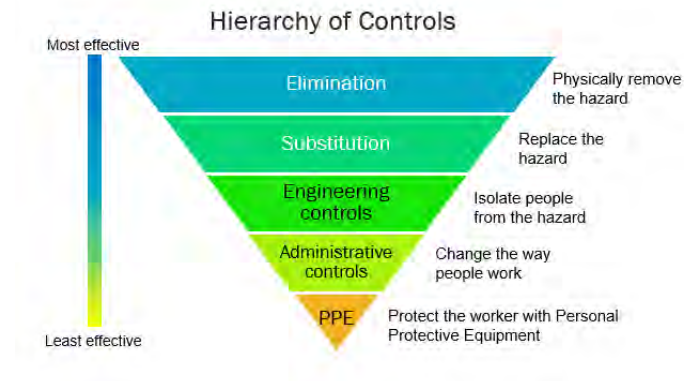

Figure 1
Add details of the corrective actions (CA) to prevent reoccurrence. Identify at least one elimination, substitution or engineering control as shown in Figure 1 for each root cause. Corrective Actions must be assigned in IndustrySafe and tracked to close out.